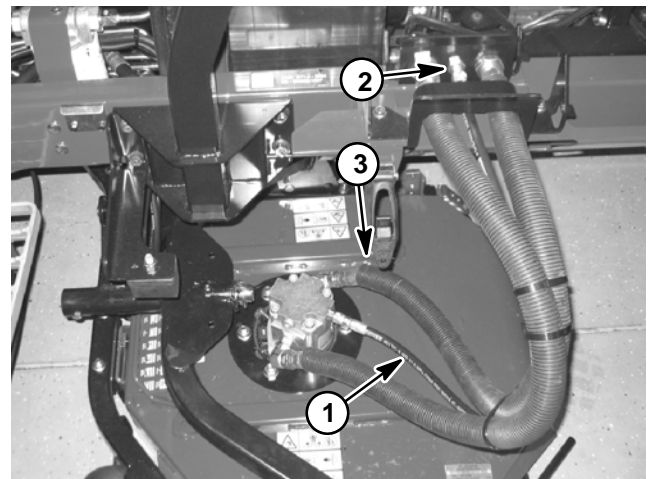

Figure 50
5. For deck motor to be tested, thoroughly clean junction of the motor case drain hose (small diameter hose) where it connects to traction unit bulkhead (not at the motor) (Fig. 50). Disconnect the case drain hose and put a steel cap on the fitting at the traction unit. Leave the case drain hose from the motor open and place open end of disconnected hose into a drain pan.
6. On deck motor to be tested, thoroughly clean junction of hydraulic return hose and deck motor fitting (Fig. 50). Disconnect return hose from the motor. Install tester with pressure gauges and flow meter in series with the motor and disconnected return hose. **Make sure the flow control valve on tester is fully open.**